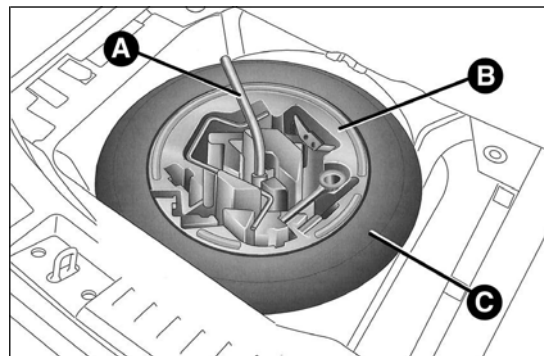

fig. 109
- ☐ using the wrench A fig. 109 located in the tool box, loosen the locking device, take the tool box B and place it close to the wheel to be replaced. Then take the space-saver wheel C;